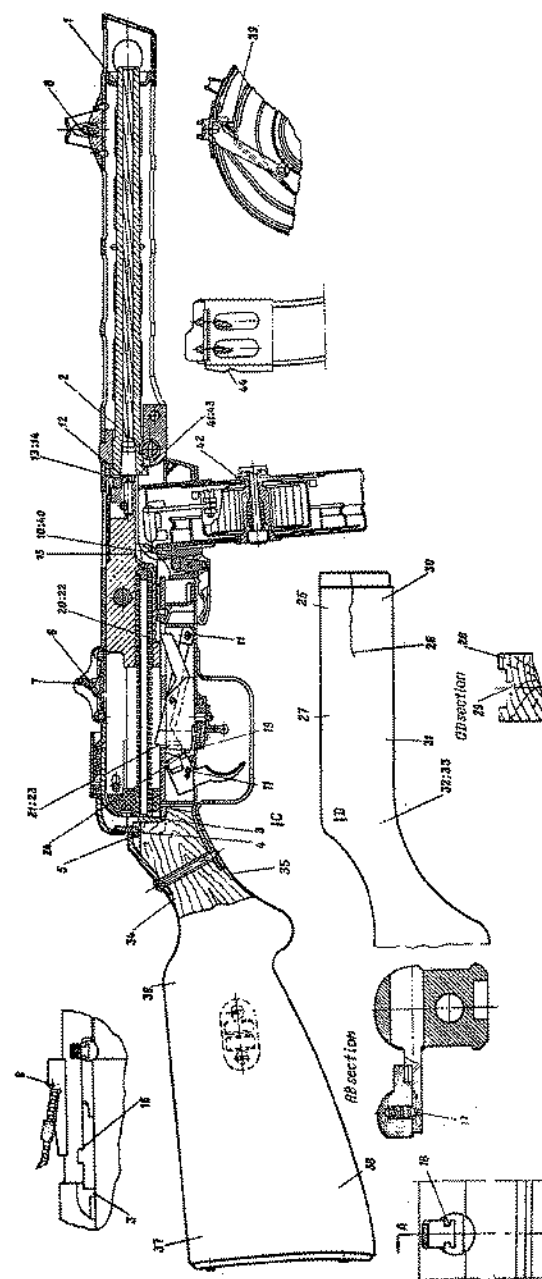

Figure 36. PPSH-41 section.
(1) First engage the lugs on the front of the trigger mechanism with the receiver; then swing the mechanism up into place. Retighten the screw.
(2) Insert the driving spring assembly into the bolt and place the buffer, flat side toward the bolt, over the spring. Place the tapered end of the driving spring assembly into the hole in the rear wall of the receiver and pull the bolt back, against the force of the driving spring, until it can be swung into position in the receiver.
(3) Swing the receiver shut and insure that the receiver catch is engaged.
b. The firing cycle starts with the bolt caught to the rear by the sear (fig 36). Pressure on the trigger causes the sear (21) to disengage from the bolt. The force of the driving spring drives the bolt forward. The feed rib on the bolt strikes the top cartridge in the magazine and drives the cartridge out of the magazine and into the barrel. The extractor snaps into the rim of the cartridge, and the fixed firing pin ignites the primer.
c. The recoil of the fired cartridge forces the bolt to the rear; this, in turn, compresses the driving spring. The fired cartridge case is held to the bolt by the extractor until the case strikes the fixed ejector (15); the case then swings around the extractor and is expelled. The bolt continues to the rear until it is stopped by the buffer; the driving spring then drives the bolt forward.
d. The sear, which holds the bolt cocked, is a pivoted, spring-loaded bar with a step (19) in its rear surface. The trigger has a forward-projecting, spring-loaded trigger pawl (24) mounted